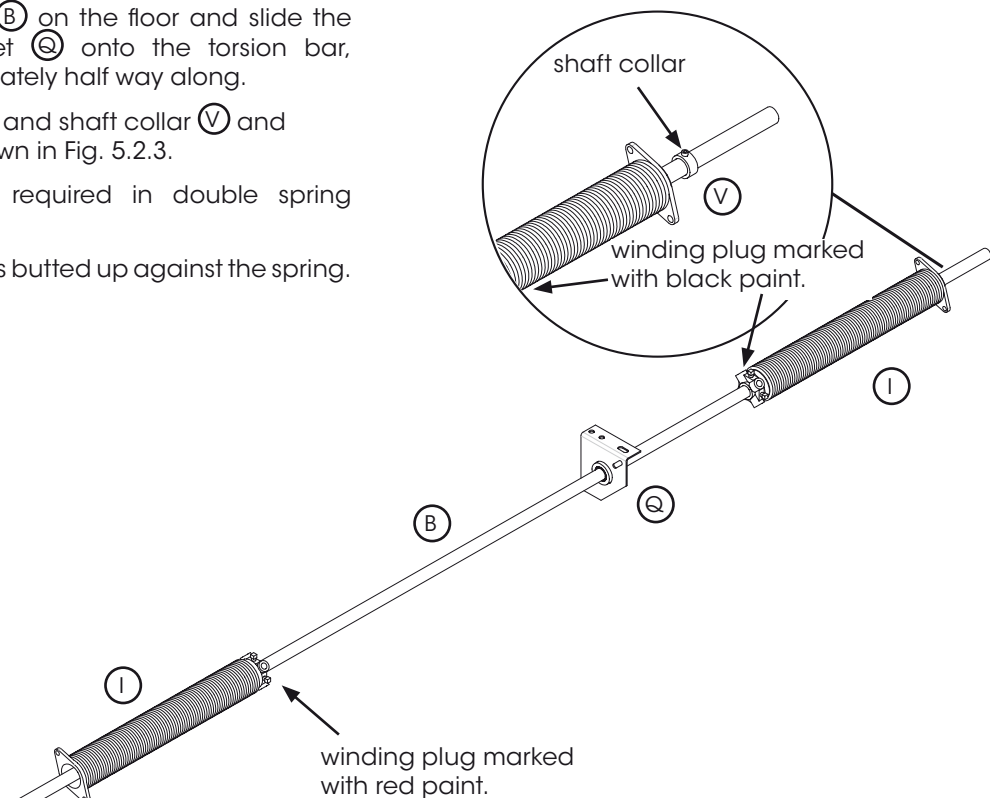

Fig: 5.2.3
The springs and drums for the counterbalance system are now colour coded to easily identify which side of the centre bracket the spring is placed. Fig. 5.2.3.
- d) Place the torsion bar (B) on the floor and slide the spring anchor bracket (Q) onto the torsion bar, positioning it approximately half way along.
- e) Locate the spring/s (I) and shaft collar (V) and assemble them as shown in Fig. 5.2.3.